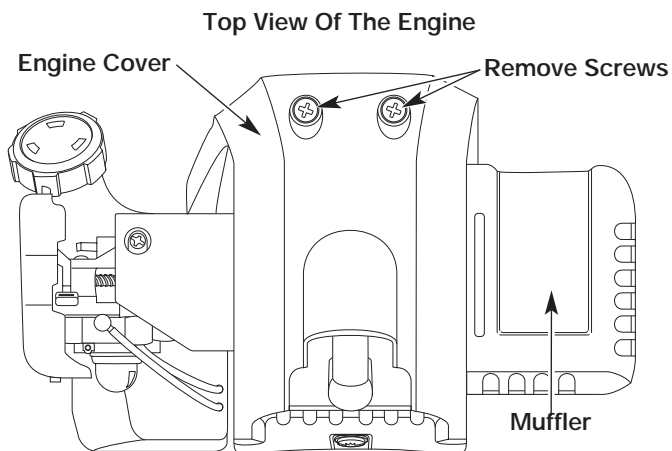

Fig. 39
2. Remove the two (2) screws on top of the engine cover with an appropriate screwdriver (Fig. 39).
6. Remove the engine cover (Fig. 39).